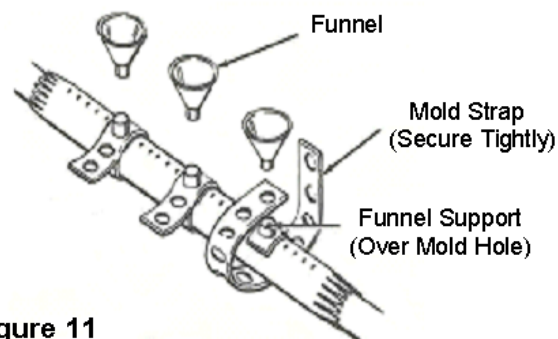

Figure 11
4. Position funnel supports over mold holes and secure with mold straps. (Figure 11)
- Install funnels into funnel support holes. (Figure 11)